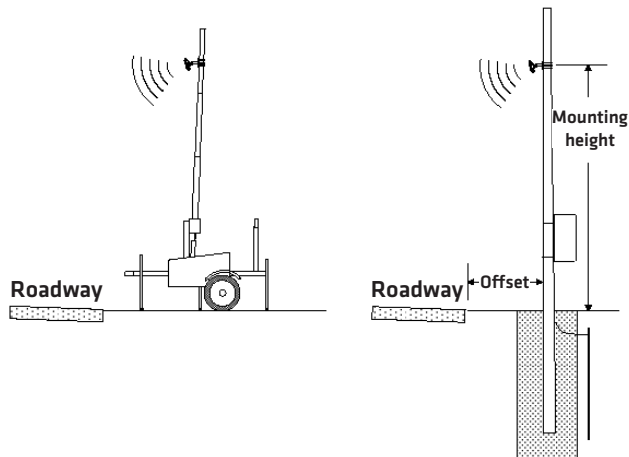

Figure I.1 – Portable (left) and Permanent (right) Sensor Stations
- **Freeway Locations** – The SmartSensor HD is often used at permanent ATR (automatic traffic recorder) stations. The number of stations along a single roadway and the distance between stations should be selected to achieve adequate levels of statistical confidence. Permanent ATR stations, which are selected to cover interstate, principal arterial, and other national and state highways, are used to establish seasonal adjustment factors for count data from temporary collection sites (see Figure I.1).